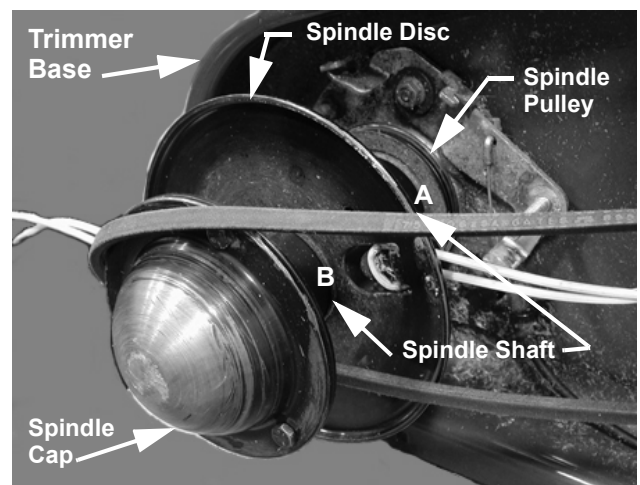

Figure 3
1. Remove the four (4) 1/4"-20 carriage bolts that hold the Deflector Flap to the Trimmer Base.
4. Refer to Figure 3. Loosen (do not remove) the two (2) wing nuts for the Spindle Disc and slide the Spindle Disc towards the Spindle Cap.